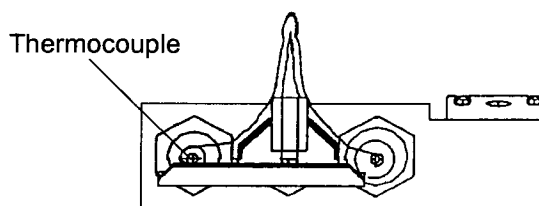

Fig. 20
- 6.5.5** The pilot flame should remain alight and envelop the thermocouple. (see fig. 20) If it goes out, wait three minutes and repeat from 6.5.4.